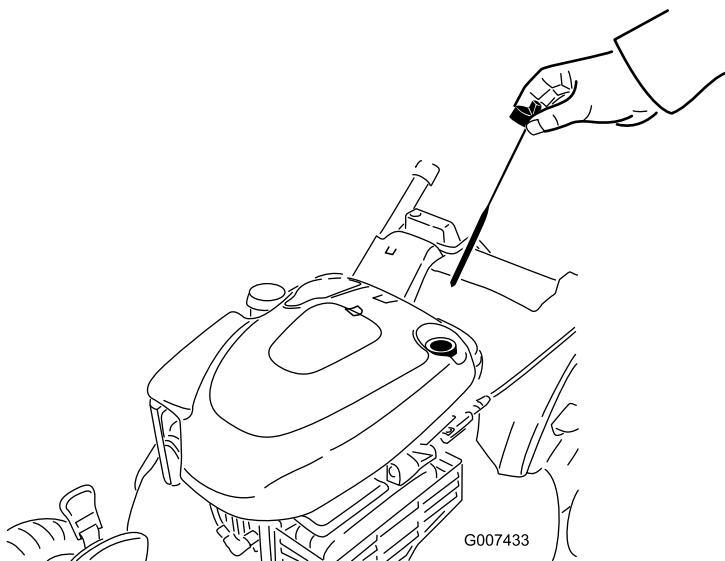

Figure 41
6. Remove the dipstick from the oil-fill tube (Figure 41).